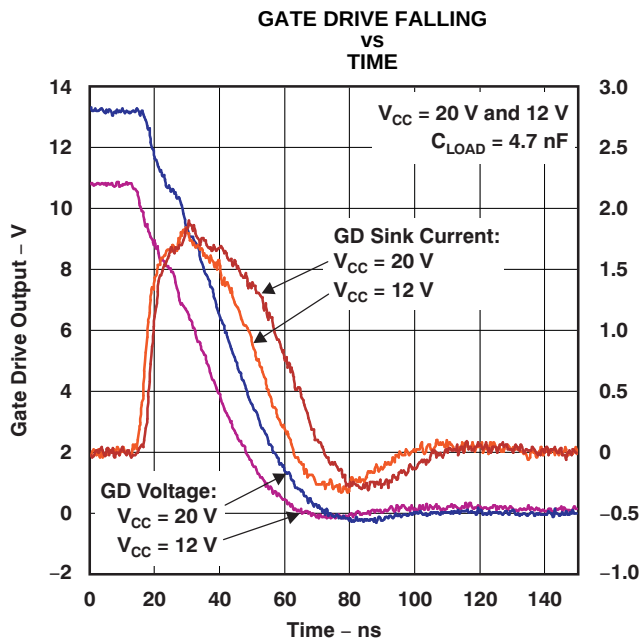
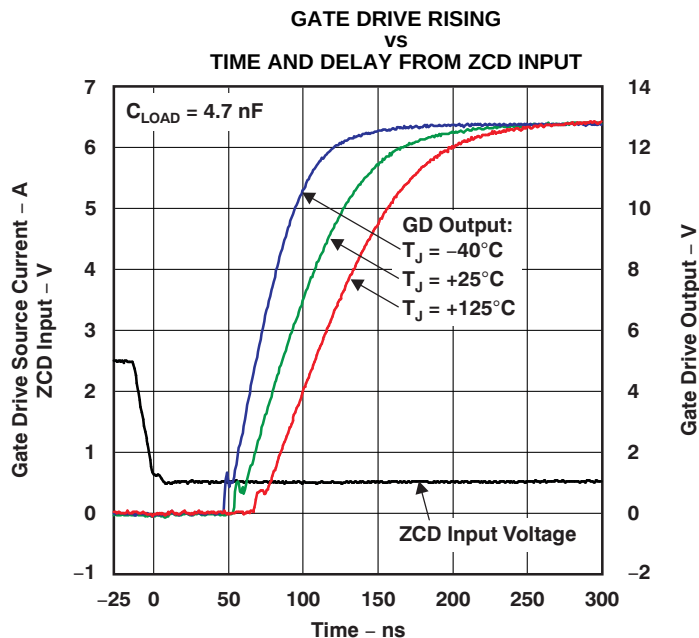
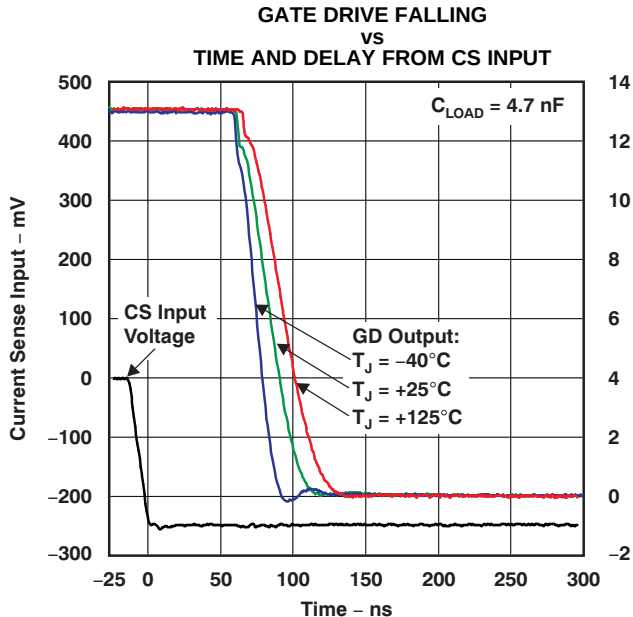

Figure 13.
Figure 14.
Figure 15.
(2) Refer to Figure 12, Figure 13, Figure 14, and Figure 15 in the Typical Characteristics for typical gate drive waveforms.